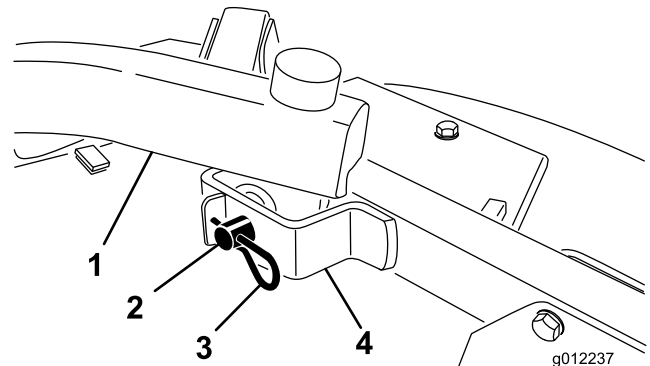

Figure 26
4. Remove the hair pin cotters and clevis pins securing the lift arms to the castor arm brackets (Figure 26).